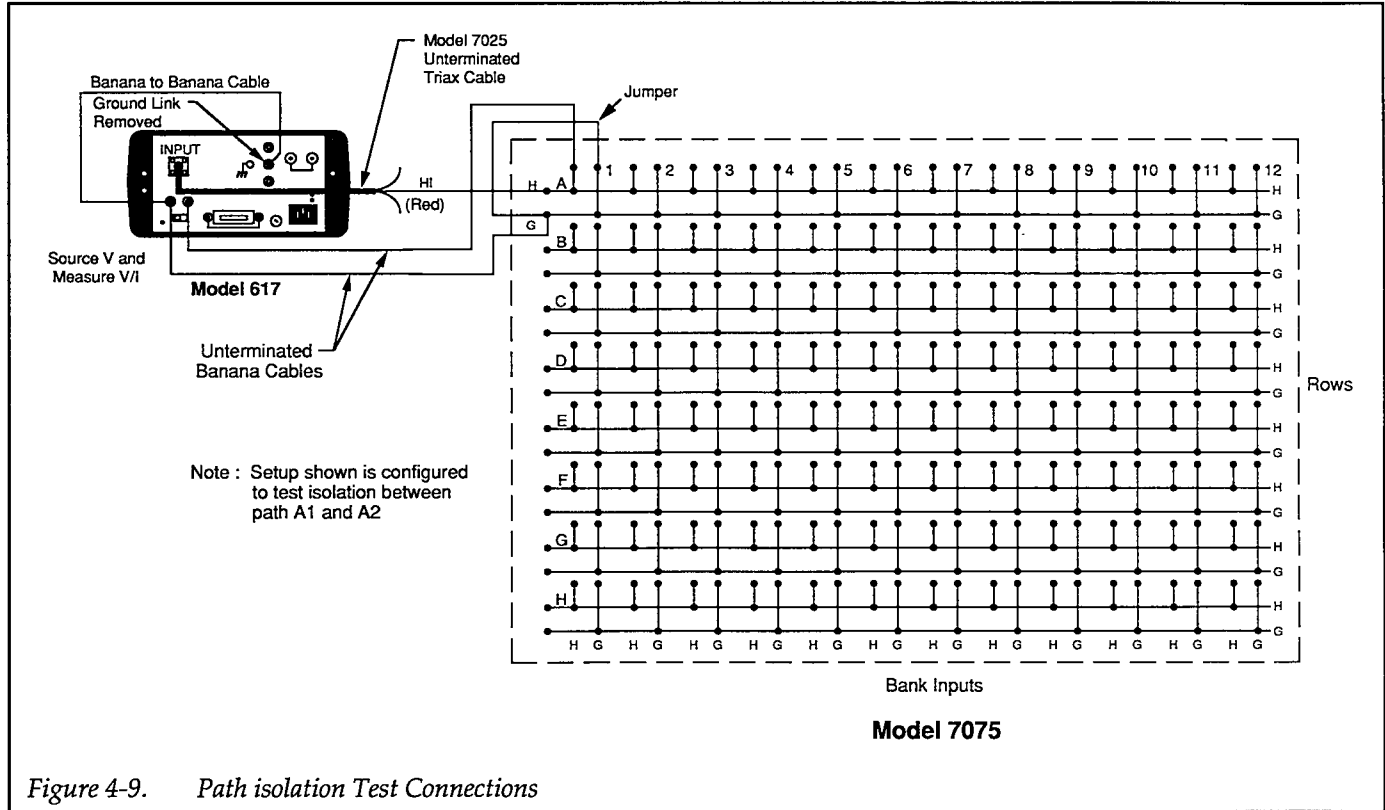

Figure 4-9. Path isolation Test Connections
Refer to Figure 4-9 for the following procedure to check path isolation.
21. Connect the Model 617 to the card as shown in Figure 4-9.